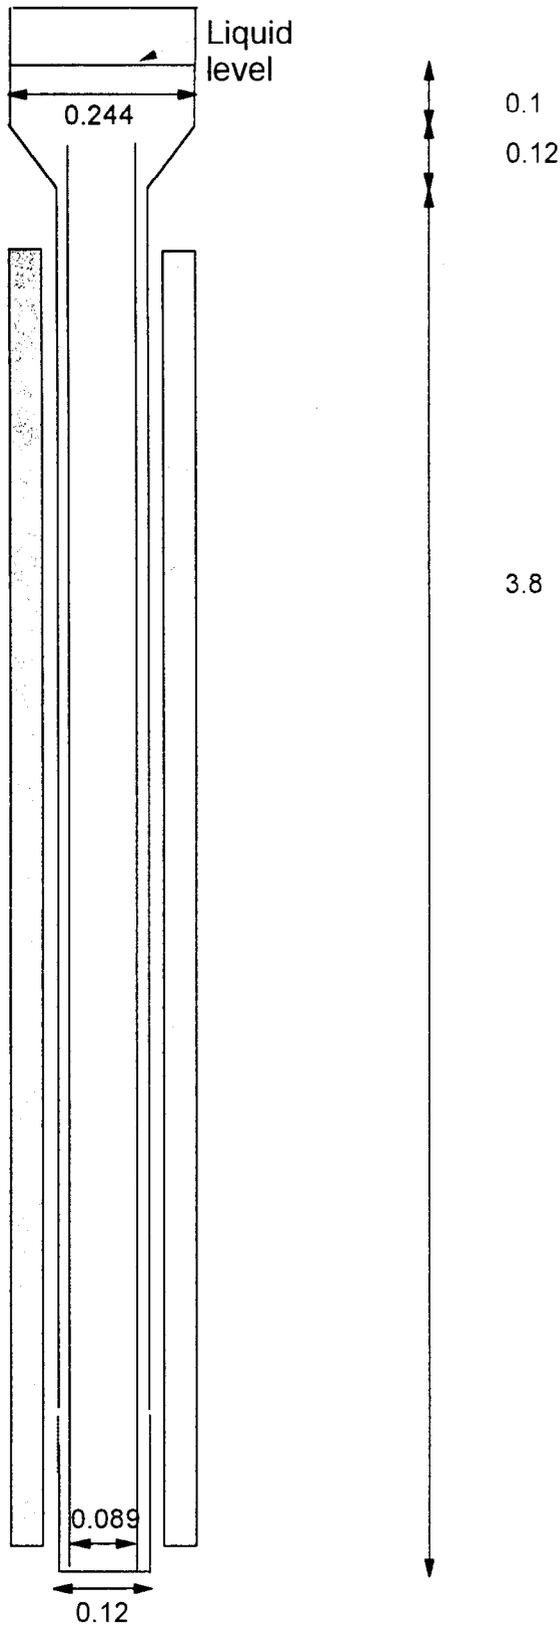

Figure 3. Air-lift dimensions for 0.12 m diameter (reactor 2).
- an air-lift reactor with an increased diameter of 0.12 m (reactor 2, figure 3)